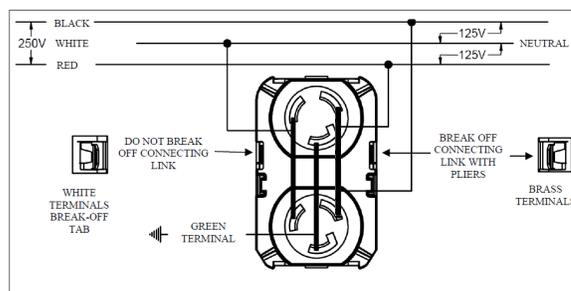

Fig. 6
- For typical wiring diagram see Fig. 6 and table 1.